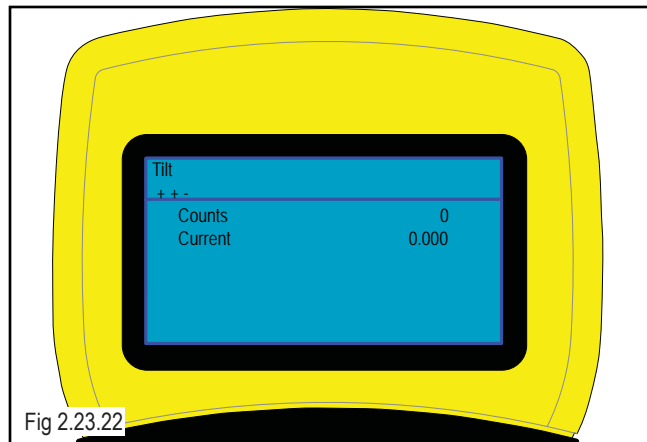

Fig 2.23.22
3. If using the HHP, select Monitor, then Motor Controller. Under Motor Controller, select the actuator to test (i.e., Tilt). (fig 2.23.22)